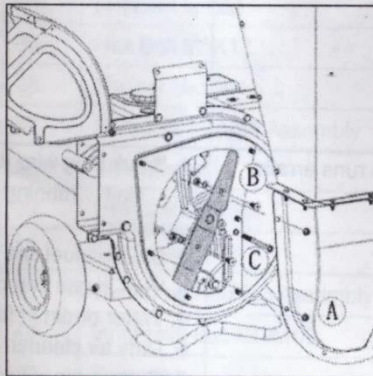

Figure 4-4
b. Remove the two internal hex screws, hex lock nuts, and lock washers which secure the shredder blade to the impeller. See Figure 4-4.
c. Remove the hex bolt, lock washer, and flat washer to completely free shredder blade. See Figure 4-4.